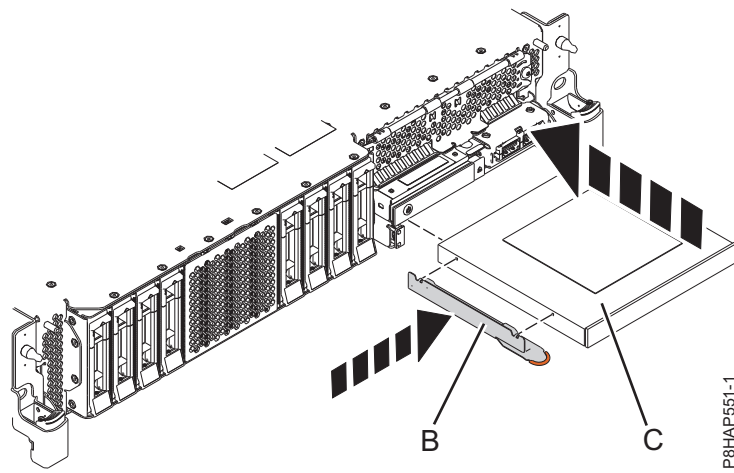
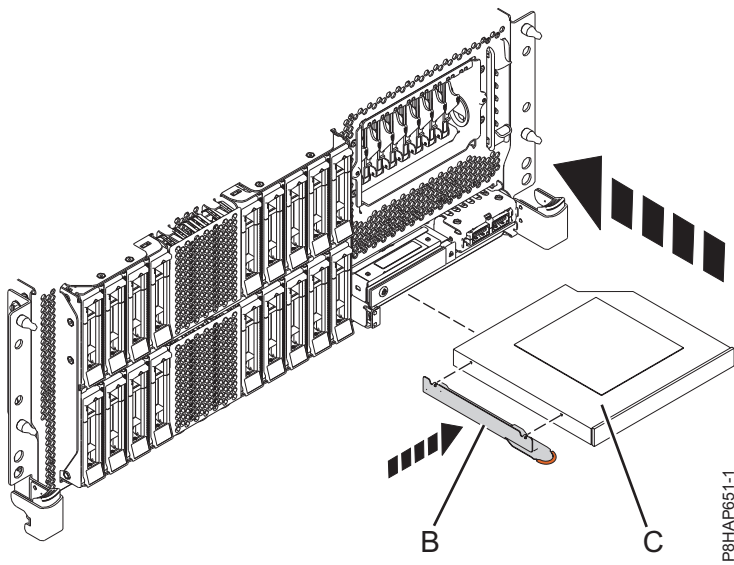
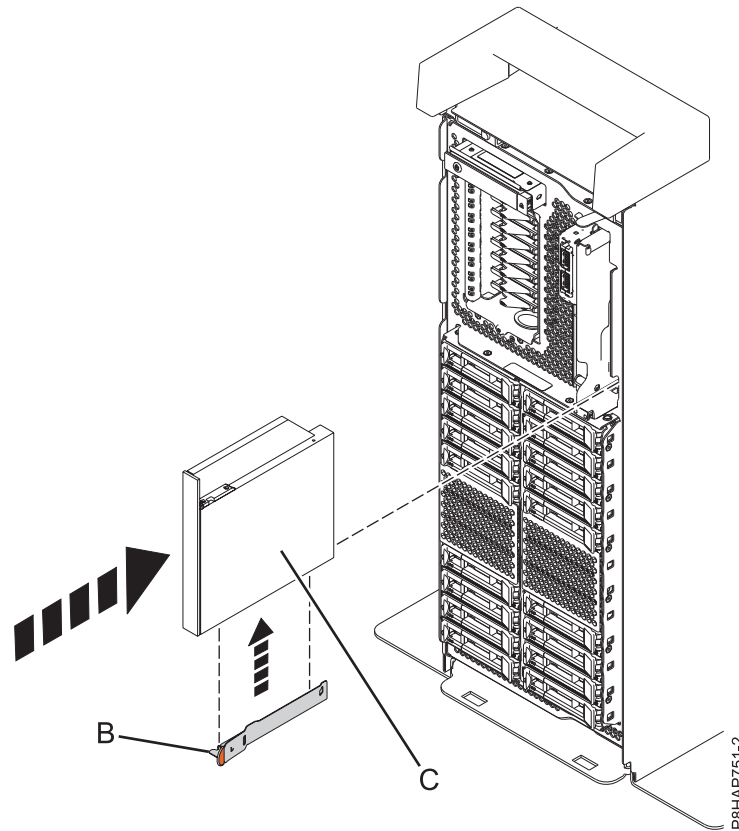

Figure 34. Replacing a Slimline media device in an 8284-21A or 8284-22A system
Figure 35. Replacing a Slimline media device in a rack-mounted 8286-41A or 8286-42A system
Figure 36. Replacing a Slimline media device in a stand-alone system
6. Attach the retaining-bracket **(B)** to the new Slimline media device, as shown in Figure 34 on page 40 for an 8284-21A or 8284-22A system, Figure 35 on page 40 for a rack-mounted 8286-41A or 8286-42A system, or Figure 36 on page 41 for a stand-alone 8286-41A system.
For an 8284-21A or 8284-22A system, see Figure 34 on page 40, for a rack-mounted 8286-41A or 8286-42A system, see Figure 35 on page 40, or for a stand-alone 8286-41A system, see Figure 36 on page 41.